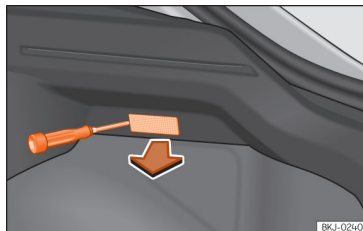

Fig. 176 Luggage compartment lighting.
- Extract the bulb by pressing on its inside edge using the flat side of a screwdriver »» **Fig. 176**.